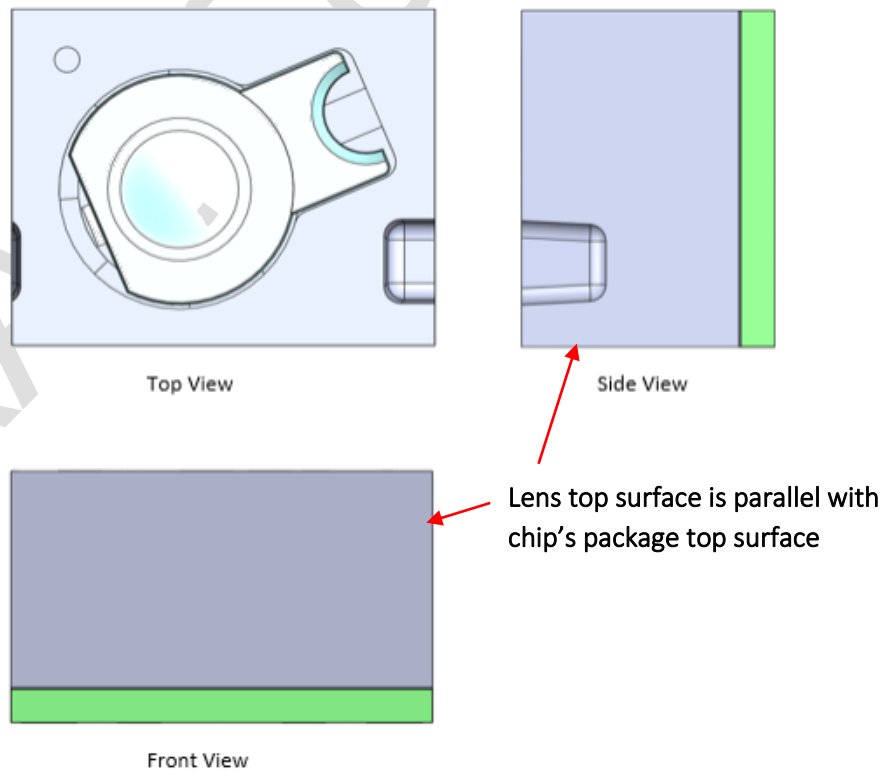

Figure 12. Side and Front View to Verify Planarity of the Lens Set
5. Recommend to verify the lens set placement is horizontally flat against chip package top surface. Refer to Figure 12 for details.